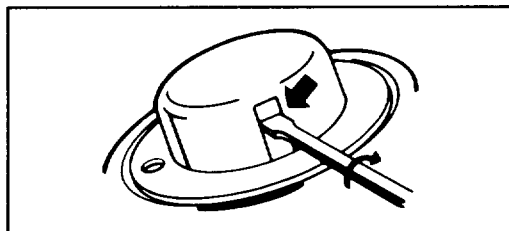

Figure 17
1. To remove empty spool, insert widest possible blade screwdriver snugly into one of two window slots. With screwdriver pressed firmly into window slot, twist screwdriver 1/4 turn. Spool will snap off (Fig. 17).